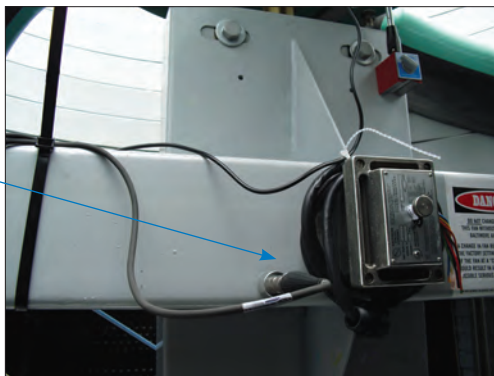

Figure 12. Accelerometer Location - Belt Drive
- Attach the accelerometer (provided by others) onto the box beam as shown in **Figure 12**. The accelerometer should be located away from the center of the web of the box beam, such that the center line of the accelerometer is about 1 inch from the upper or lower edge, as shown.